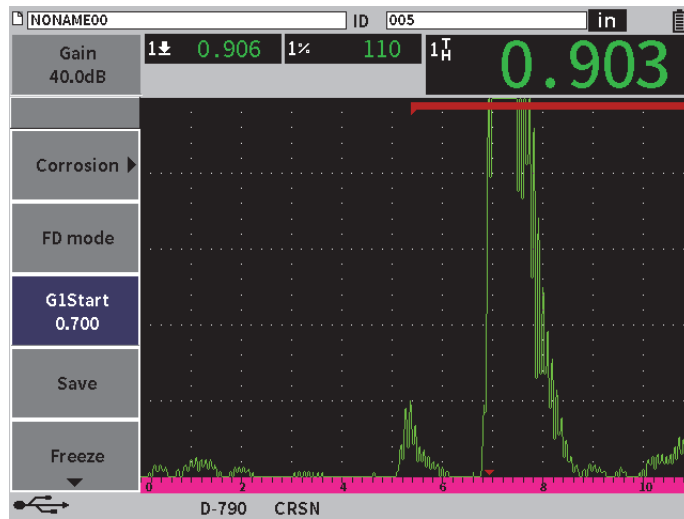

Figure 11-40 Correctly triggered measurement
- ◆ Select **G1Start** from the Sidebar menu and turn the adjustment knob to increase or decrease the gate 1 start position until the measurement is correctly triggered (see Figure 11-40 on page 201).